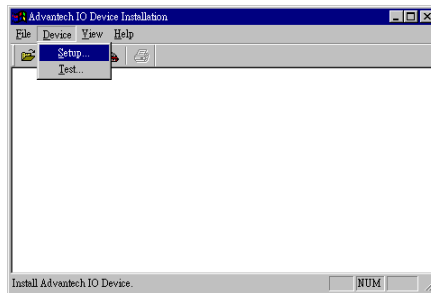
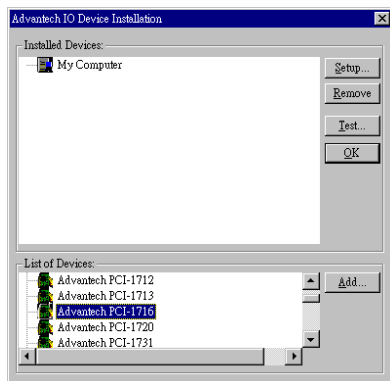

Figure 2-4: The Advantech Device Installation utility program
Figure 2-5: The I/O Device Installation dialog box
Step 2: On the *Device Installation* program window, select the Setup menu item on the menu bar, and click the *Device* command (Figure 2-4) to bring up the *I/O Device Installation* dialog box (Figure 2-5). You can then view the device(s) already installed on your system (if any) on the *Installed Devices* list box. Since you haven't installed any device yet, you might see a blank list such as the one on the next page (Figure 2-5).